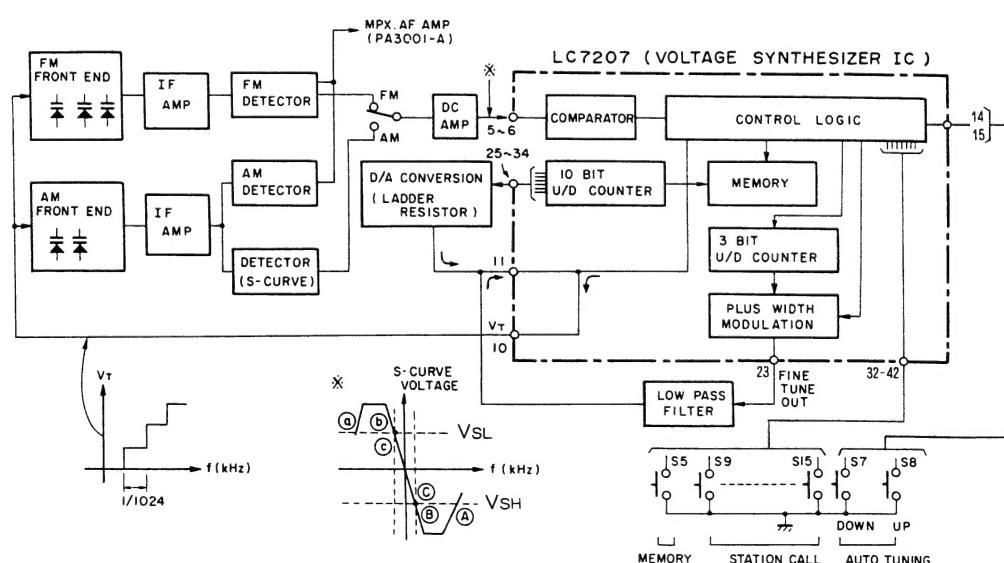

Fig. 4-4 Auto-tuning
This V_T is progressively increased one step at a time, resulting in the tuning frequency also being increased stepwise. And when the frequency of a broadcasting station is approached, the S-curve voltage passes the V_{SL} a point as shown in Fig. 4-4. With further increases in the V_T voltage, the S-curve voltage starts to decline again, passing through point V_{SL} ②. Then with continued decrease, a counter voltage at V_{SH} ③ is encountered. After completing these 3 steps from ① to ③, the auto-search mode is halted (rough tuning).
circuit, a ratio detector S-curve generator circuit is used, an output being obtained with a sufficiently high enough gain from the DC amplifier (see Fig. 4-4).